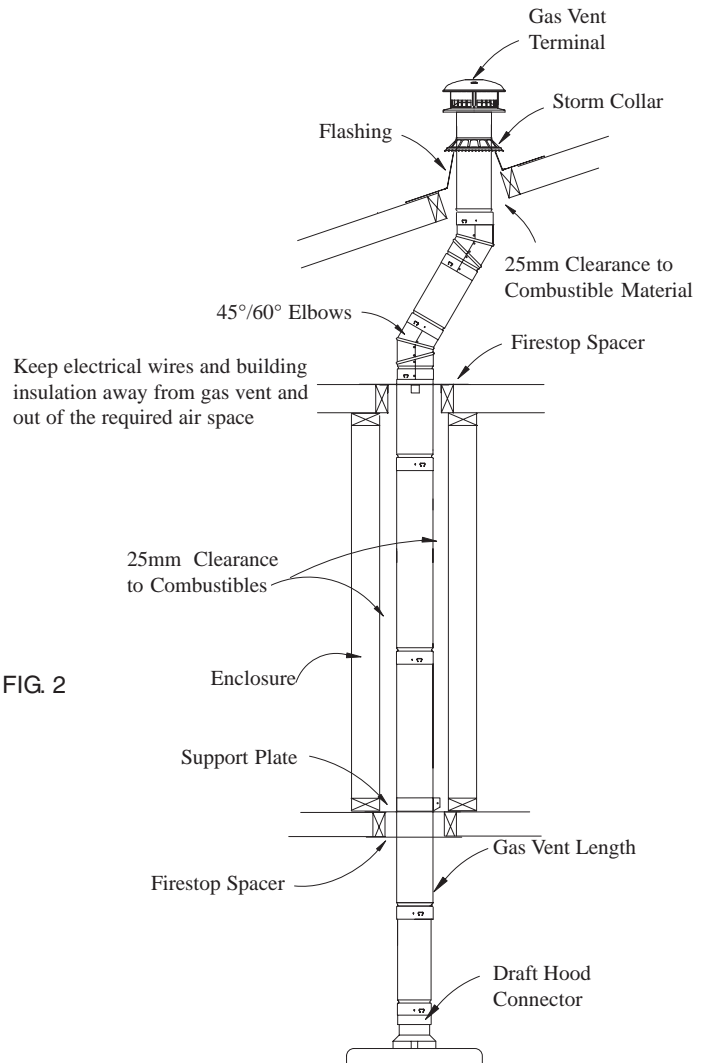

FIG. 2
Selkirk Model SIL Gas Vent must be installed with 25mm minimum air gap clearance to combustibles. Where the Gas Vent extends through inhabited spaces, it must be enclosed with 25mm clearance to avoid personal contact and damage (see Fig. 2). These clearances are marked on all gas carrying items and they apply whether they are horizontal or vertical, or pass through floors, walls, roofs or framed spaces. The appropriate clearance should be observed to joists, studs, subfloors, plywood, drywall, or plaster enclosures, insulating sheathing, rafters, roofing, and any other materials classed as combustible. Enclosure material should have a fire resistance rating at least equal to that of adjacent floor or ceiling material. Keep electrical wires and building insulation away from gas vent and out of the required air space.
Selkirk Model SIL Gas Vents passing through floors, ceilings or walls must be firestopped using the Firestop Spacer as per Fig. 2, 3, and 5. The Firestop must close the area between the outer wall of the pipe and the opening in the structure. In areas such as attics with no floor, the Firestop should be placed on top and under of a properly framed opening. KEEP WIRES AND INSULATION OUT OF REQUIRED AIR SPACE AROUND GAS VENT. When venting is to be supported the Support Plate must be used as vent pipe supports. See Section 8. For gas vents within a shaft or chase, firestopping is provided by the vertical walls of the shaft. Any openings in the chase/shaft below the roof must be firestopped.
**6. USE OF GAS VENT FITTINGS** (See Figs. 2)